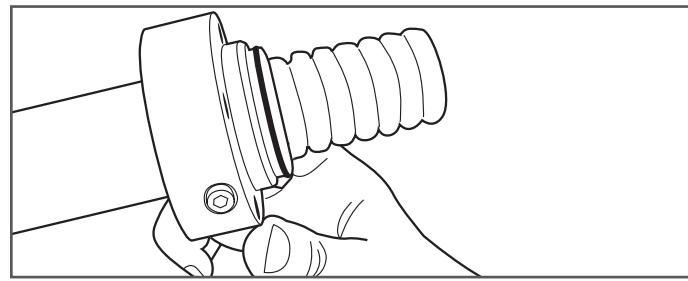

Figure 7-16
**17.** Prepare DoubleTrac® piping for final cut. Slide middle section of fitting onto the DoubleTrac® pipe until it bottoms out (Figure 7-16).